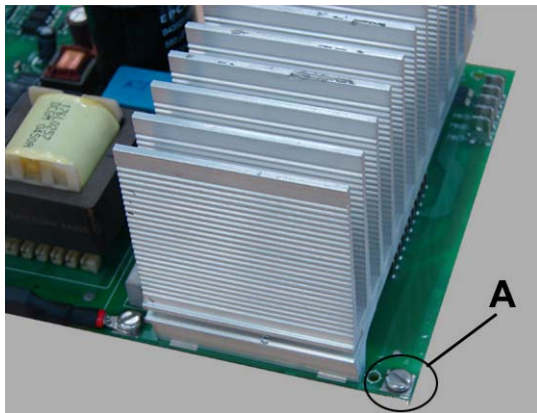

fig. 1
The securing of the inverter board (A2) to the support box. The inverter is fixed to the support board using six separators. Models HS / MS: six metal separators Models EH / EM: five isolated separators and a metal separator (consult position of metal separator (A) in figure 1)	Check: <ul style="list-style-type: none"> <li>- The correct distribution of the separators.</li> <li>- The securing of the entire inverter board to the support.</li> </ul>